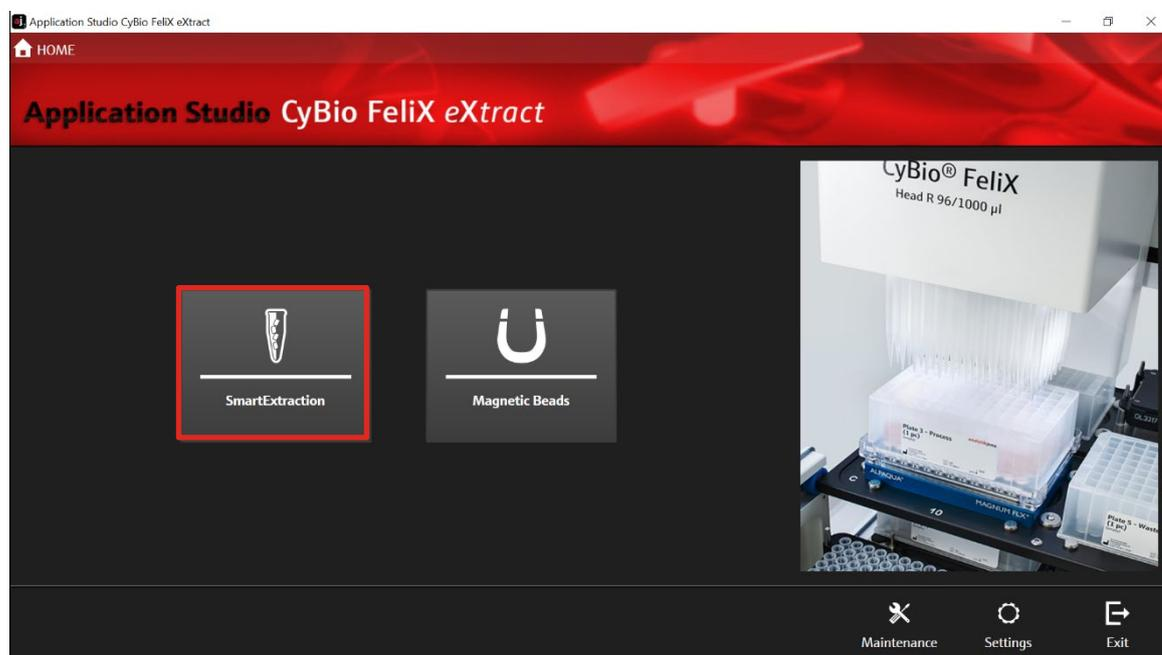

Figure 31: Homescreen of the AppStudio FeliX *eXtract*. Selection of extraction technology: SmartExtraction.
3. Select the extraction technology “SmartExtraction” (→ see Figure 31).